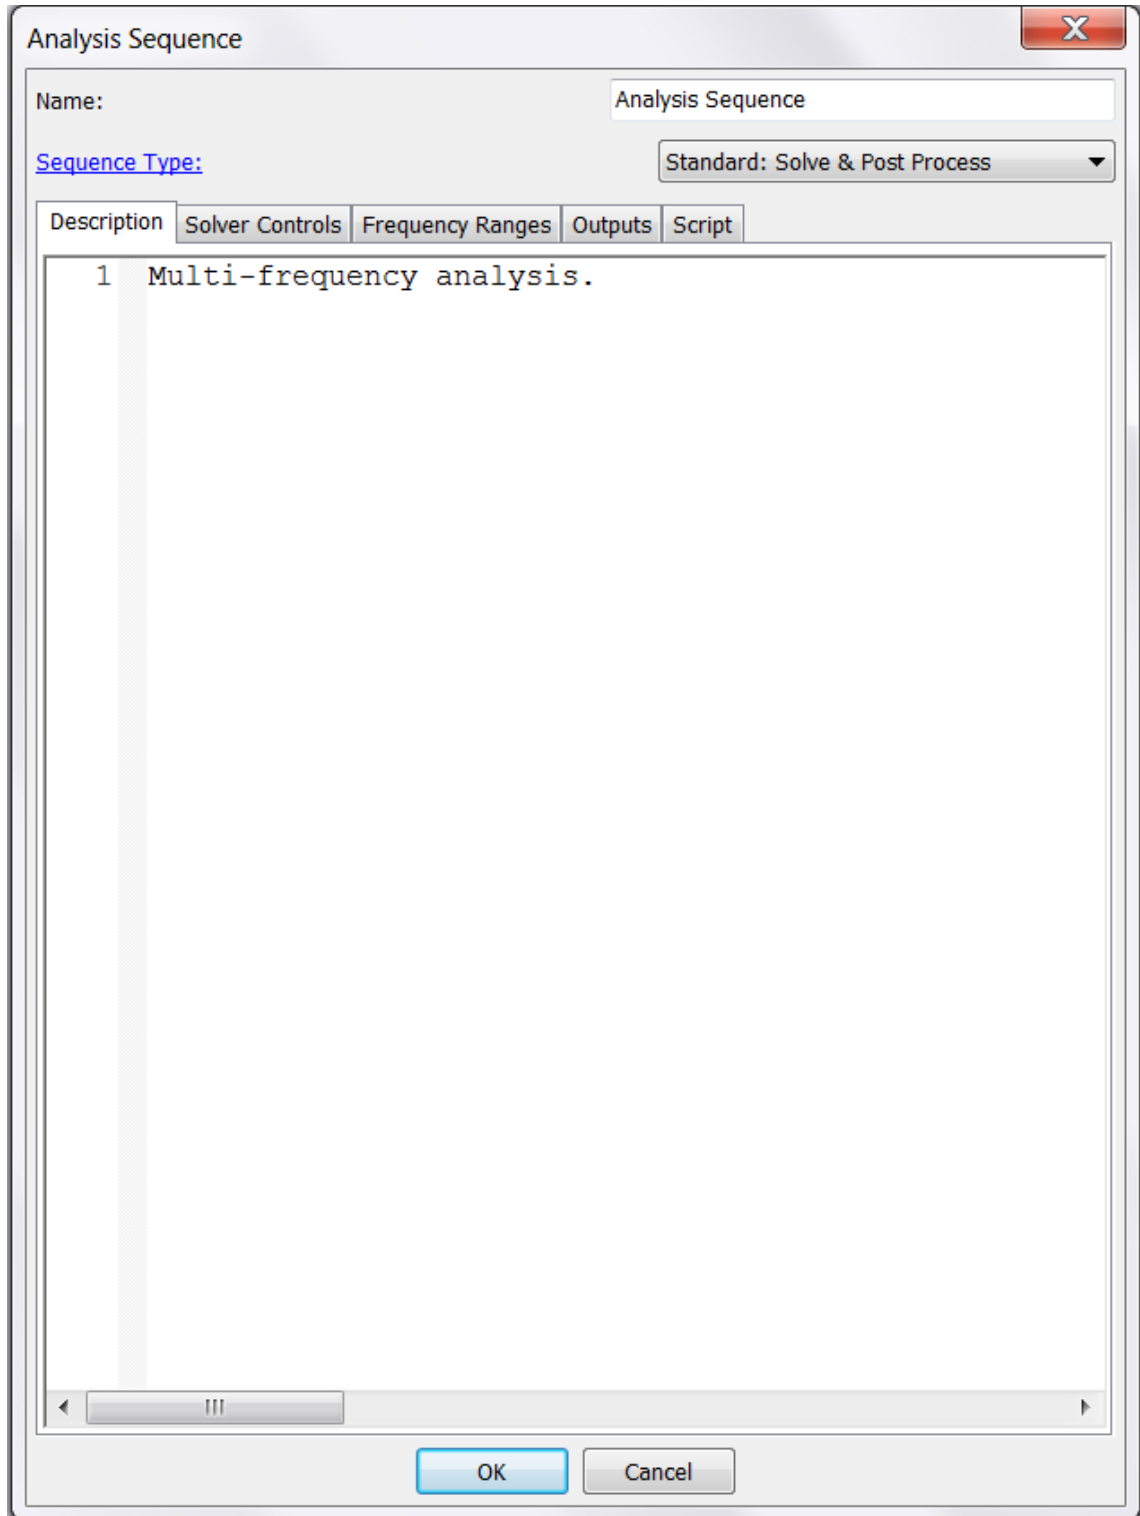

Figure 7.2 Analysis sequence edit dialog box.
- **Edit an Analysis Sequence.** Select: **Analysis Sequences** → <Analysis Sequence Name>. Right-click on it and select **Edit** to open the analysis sequence edit dialog box. Make changes and click OK. (Figure 7.2)
Figure 7.2 shows an Analysis Sequence edit dialog box. The dialog box consists of *tabbed* windows storing different parameters. The first *tabbed* window **Description** could be used to add the description of the analysis sequence. All the required **Inputs** for *Coustyx* the selected sequence type are found in the *tabbed* windows: **Solver Controls**, **Frequency Ranges (Frequency Filter)**, **Just-In-Time Loading** and **Diffuse Sound Field**. The **Outputs** window has options to save the results to a binary file, compute acoustic variables at Sensor locations (field points), and save iGlass file for post-processing visualization. **Script** *tabbed* window lists the summary of commands required to run an analysis. The parameters in the script are set by the selections in the previous *tabbed* windows. Advanced users can directly modify the script to suit their requirements.